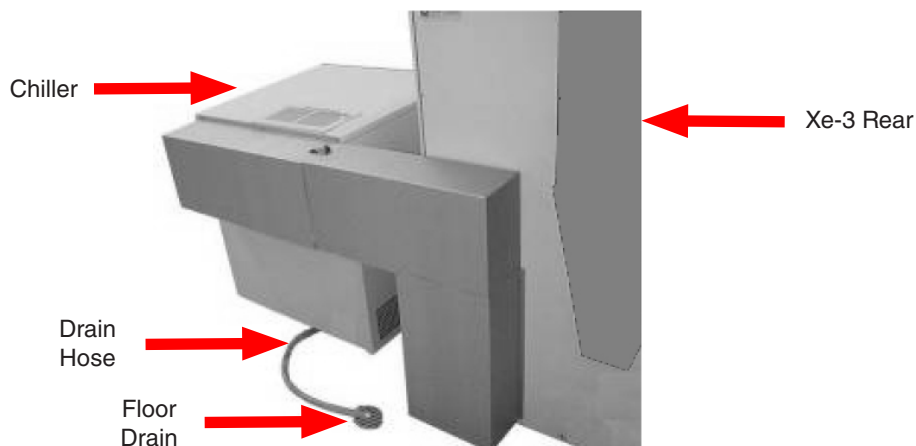

Figure 5.9i: Chiller drain hose routed to floor drain.
- The drain connection is made at the lower rear of the chiller (Figure 5.9i).